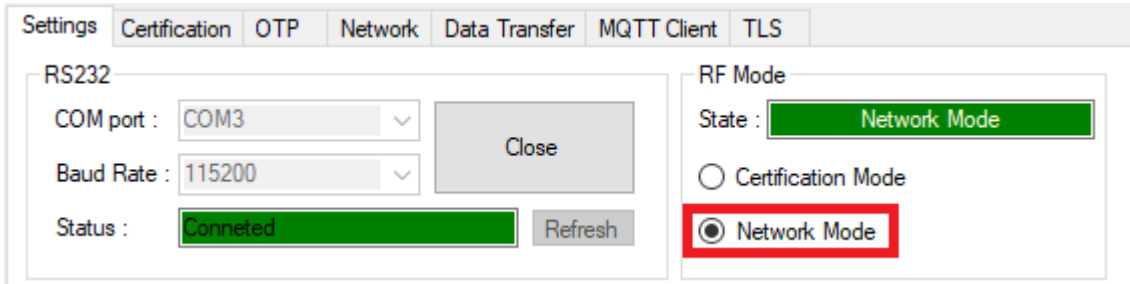

Figure 14. Network mode configuration
2. Select the **Network Mode** checkbox, see Figure 14.